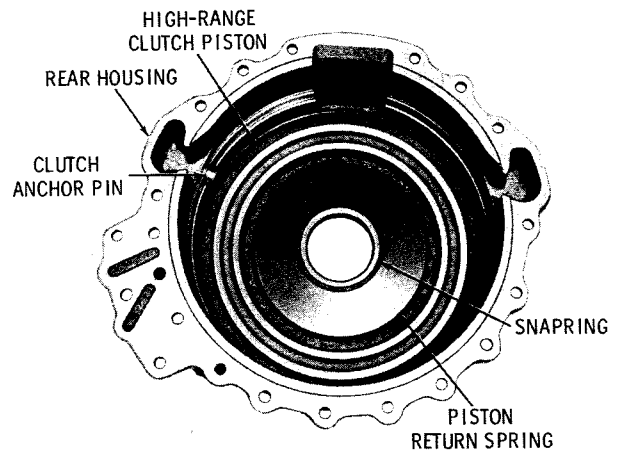

Fig. 7-12. Rear housing and piston assembly (-1 model)
(1) Install the high-range clutch piston, with sealings and expanders, flat side first, into the rear housing assembly (fig. 7-12).
(2) Install the piston return spring, convex side upward. Depress the inner diameter of the spring and install the snapring which retains it (fig. 7-12).
(3) Install the clutch anchor pin, leaving the flat-milled end extending at the inside of the housing (fig. 7-12).
(4) Position the high-range clutch anchor assembly 12 (A, foldout 11), pins upward on a flat surface. Beginning with an internal-splined clutch plate, alternately install five internal-splined and five external-tanged, high-range clutch plates. Engage the external tangs with the clutch anchor pins.